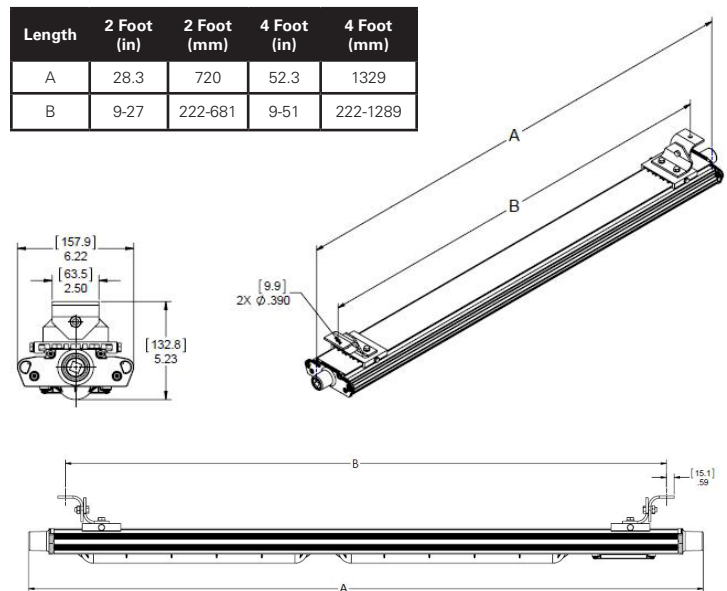

Figure 5. DP1050MTK Swivel Mount Installation
- Mark and drill holes for fastening swivel brackets. Use two (2) 1/4" bolts (not supplied) at center to center measurements. For swivel brackets, holes may be spaced as required. It is recommended to keep them at least 12" (305mm) apart (see Figure 5).
- Fixture is now ready for mounting. It is strongly suggested to use two (2) qualified tradespeople to proceed with the final mounting of the fixture. This is recommended to avoid any personal injury or damage to the fixture.